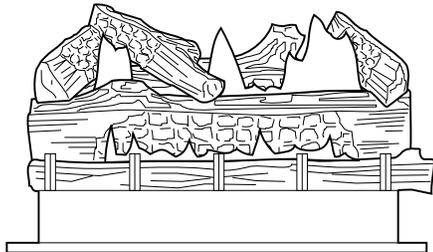

Figure 20
**Rear Burner Flame Characteristics** – The rear flames should be yellow. The flames should extend about 3 – 4" above the center log (front of the unitized log group) for natural gas and 2 – 3" above for propane (L.P.G.) gas (Figure 20).
**Main Burner** – The flames at the front burner holes will be blue becoming yellowish as they hit the bark-like texture of the base and front face of the center log (front of the unitized group) (Figure 20).